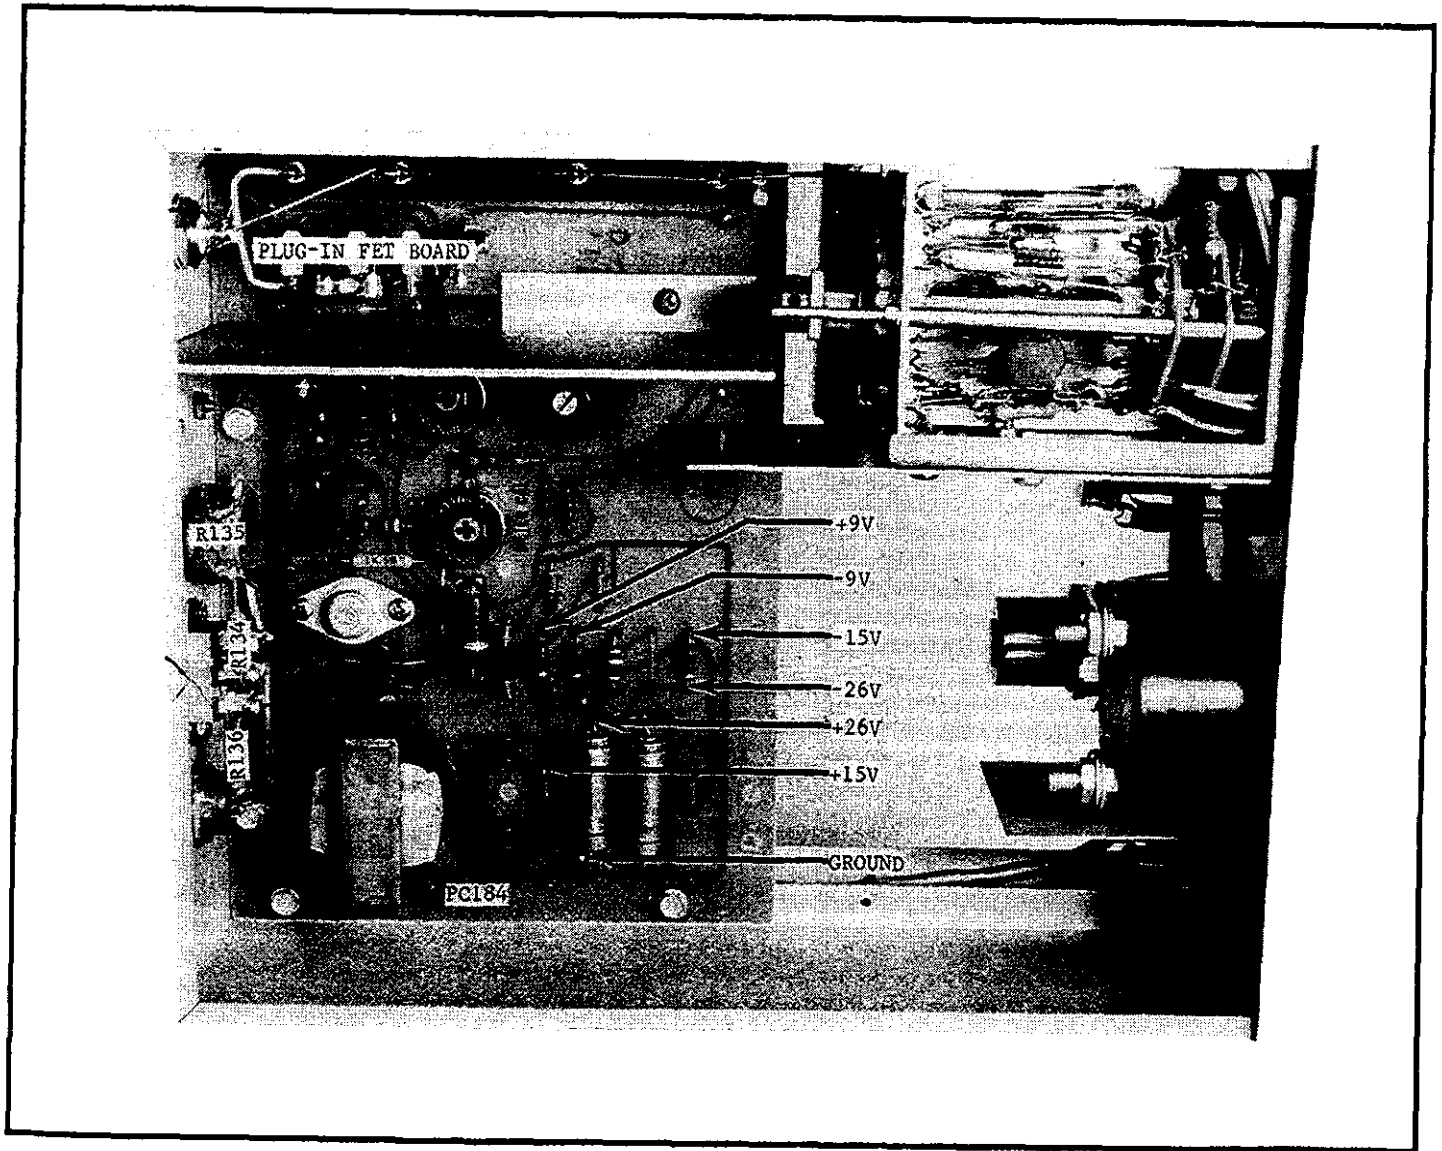

FIGURE 6. Chassis, Top View.
5-3. POWER SUPPLY CHECK. (See Figure 6 for test points for the Power Supplies.
a. Check the positive and then the negative 26 volt supply by connecting the Model 163 between ground and the plus and minus 26 volt test points respectively (Fig. 6). The voltage should be plus and minus 26 volts ± 3 volts respectively. The ripple in each case should be less than 3 volts peak-to-peak.
b. Check the positive and then the negative 15 volt supplies by connecting the Model 163 between ground and the plus and minus 15 volt test points respectively (Figure 6). The voltage for the plus and minus 15 volt supplies should be plus and minus 15 volts ± 2.0 volts respectively. The ripple in each case should be less than 20 mV peak-to-peak.
c. Check the positive and then the negative 9 volt supplies by connecting the Model 163 between ground and the plus and minus 9 volt test points respectively (Figure 6). The voltage for these supplies must be plus and minus 9 volts ± 1.0 volt respectively. The ripple in each case should be less than 3 mV peak-to-peak.